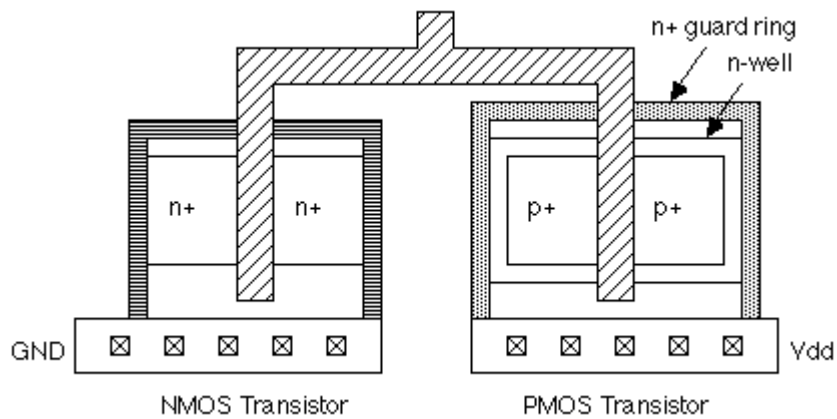

Figure 3-39 CMOS circuit with guard rings
- (ii) using guard rings around the transistors as shown in Figure 3.39. For an  $n^+$  guard ring, it provides a low resistance path to collect holes before they interfere with the operation of other circuits outside the guard ring, thus reduces parasitic resistance.